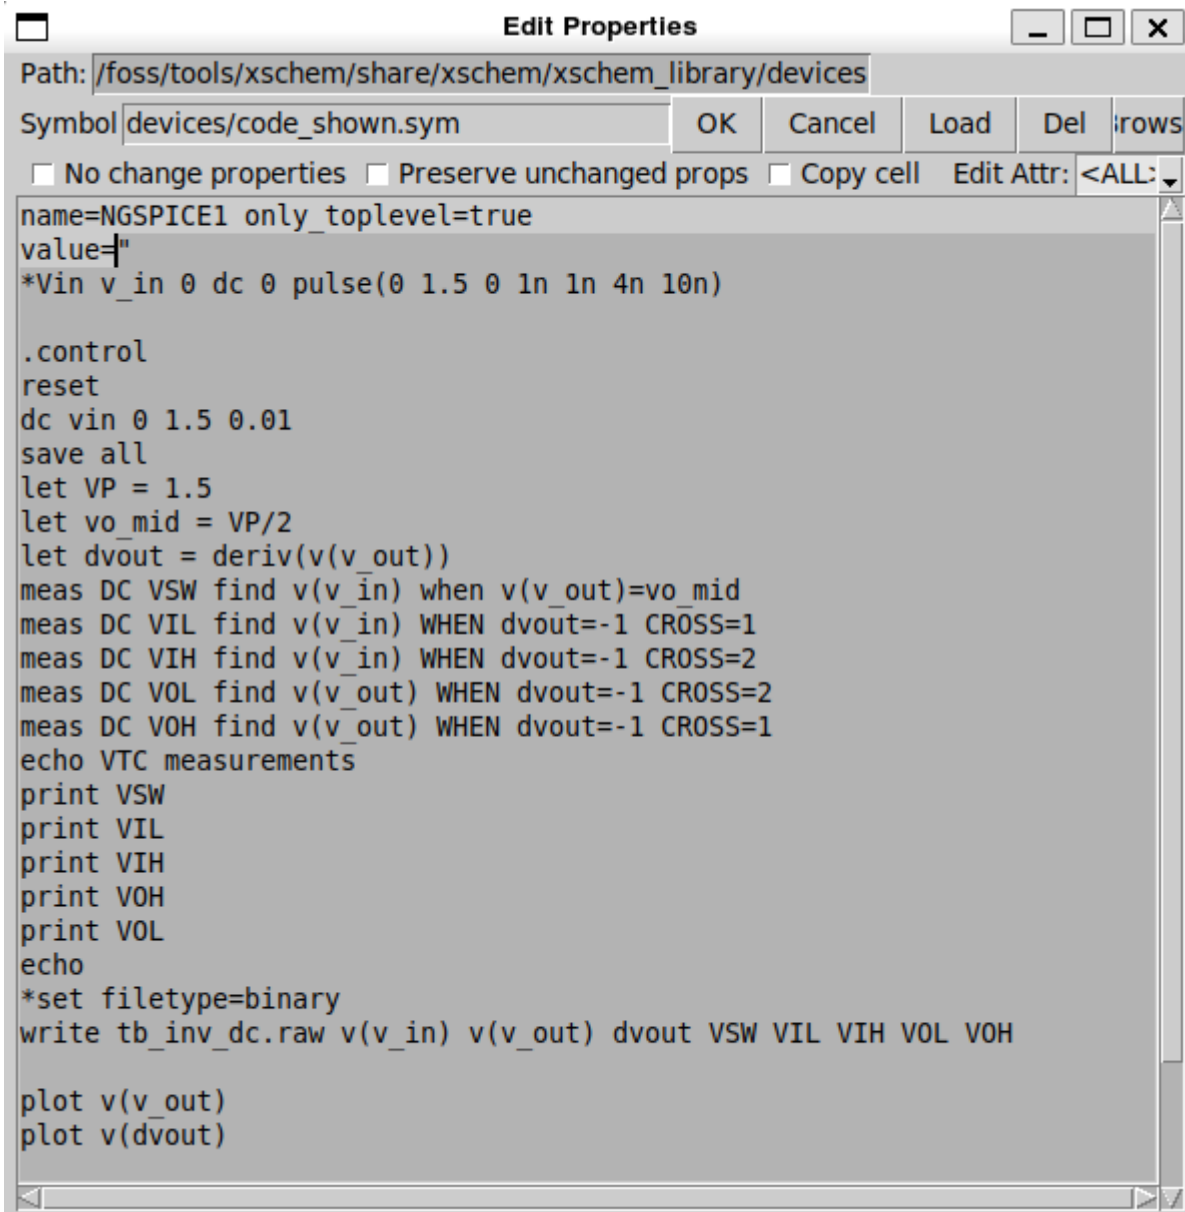
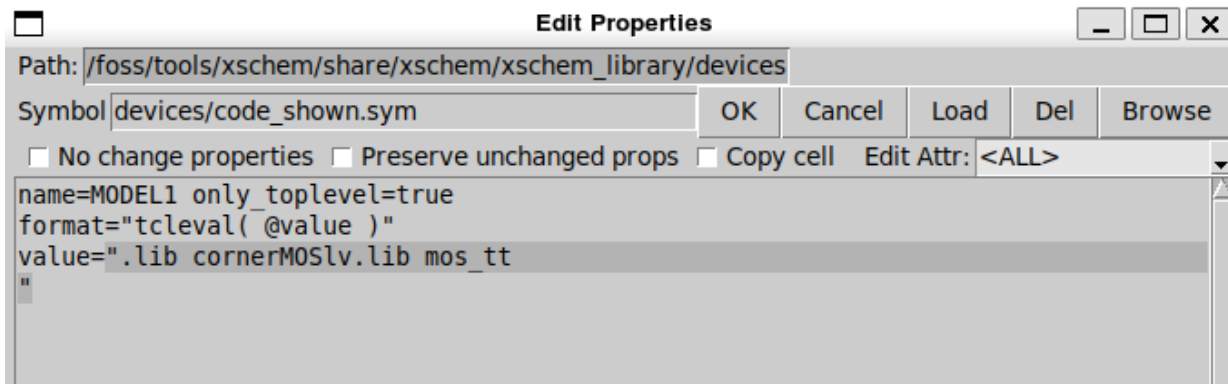

Figure 6: Xschem Testbench.
Figure 7: Xschem TT Corner.
2. The spice directives **MODELS1** and **NGSPICE1** are code.sym instances with the attributes shown in Figure 6 and Figure 7